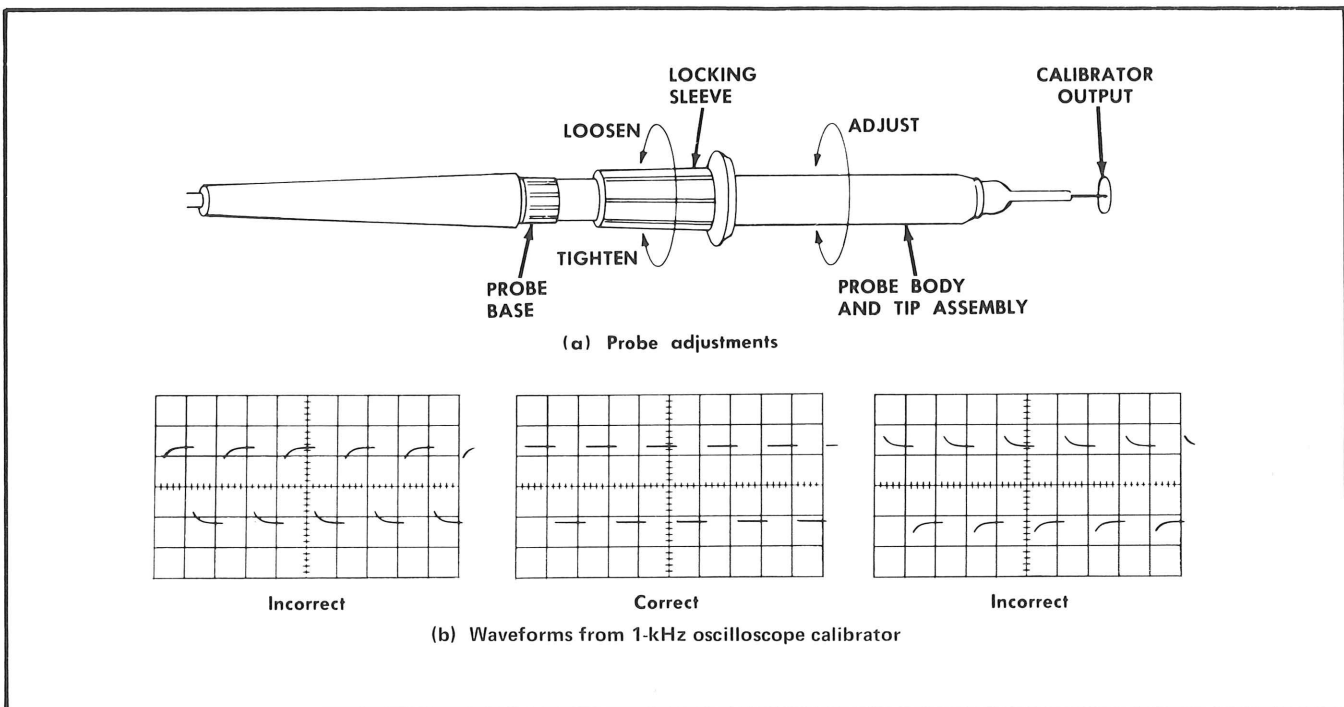

Fig. 2-1. Probe compensation.
- 1) Hold the probe body and loosen the locking sleeve several turns (see Fig. 2-1).
- 4) Hold the probe base and turn the probe body to obtain a flat-topped square wave display, free of overshoot or rolloff. Fig. 2-1(b) shows correct and incorrect adjustments.